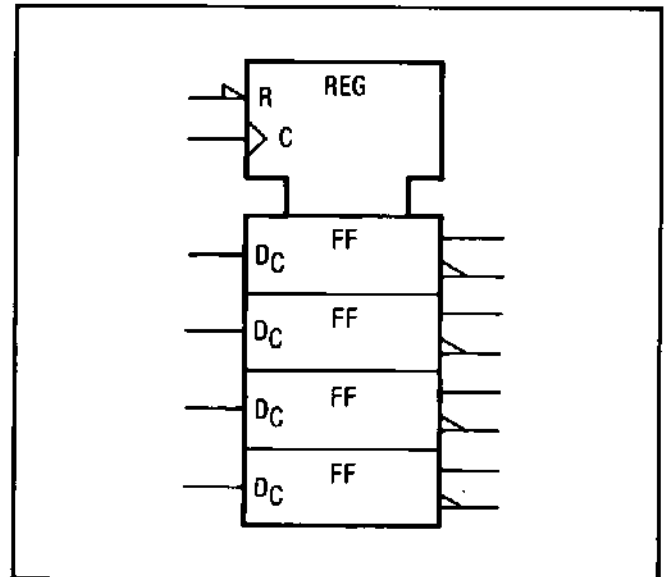

Figure 8-17. Quad D-Type Latch
**Quad D-Type Latch.** The register control block illustrates a quad D-type latch (see Figure 8-17). There is a common active-low reset (R), and a common edge triggered control input (C). Since there is only one dependency relationship, the controlling input is not numbered and the controlled functions (D) are subscripted with a C.